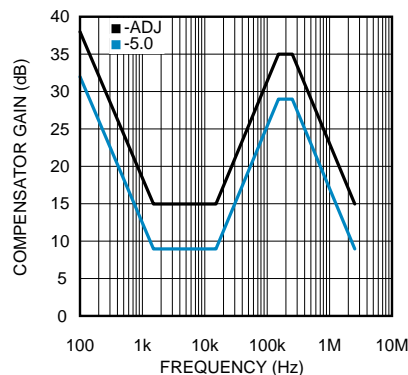

Figure 14. Compensator Gain
The complete transfer function for the regulator loop is found by combining the compensation and power stage transfer functions. The LM22670 has internal type III loop compensation, as detailed in Figure 14. This is the approximate "straight line" function from the FB pin to the input of the PWM modulator. The power stage transfer function consists of a dc gain and a second order pole created by the inductor and output capacitor(s). Due to the input voltage feedforward employed in the LM22670, the power stage dc gain is fixed at 20 dB. The second order pole is characterized by its resonant frequency and its quality factor (Q). For a first pass design, the product of inductance and output capacitance should conform to Equation 3.